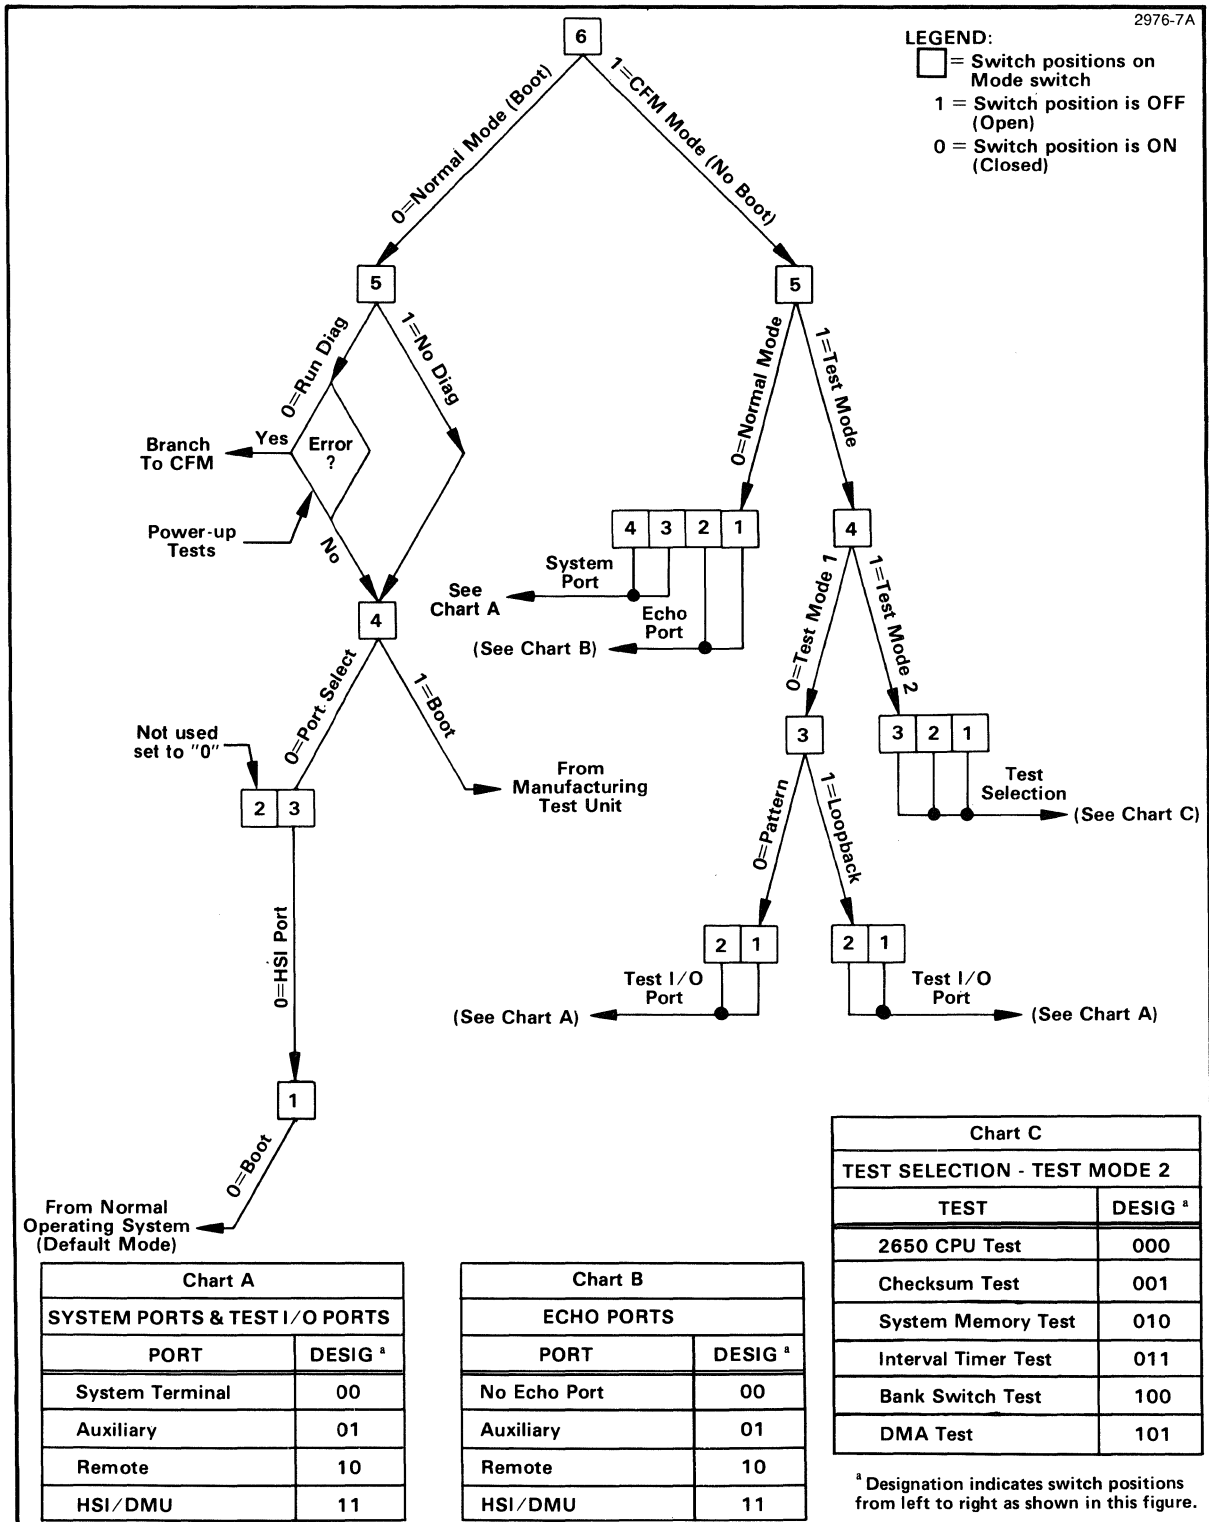
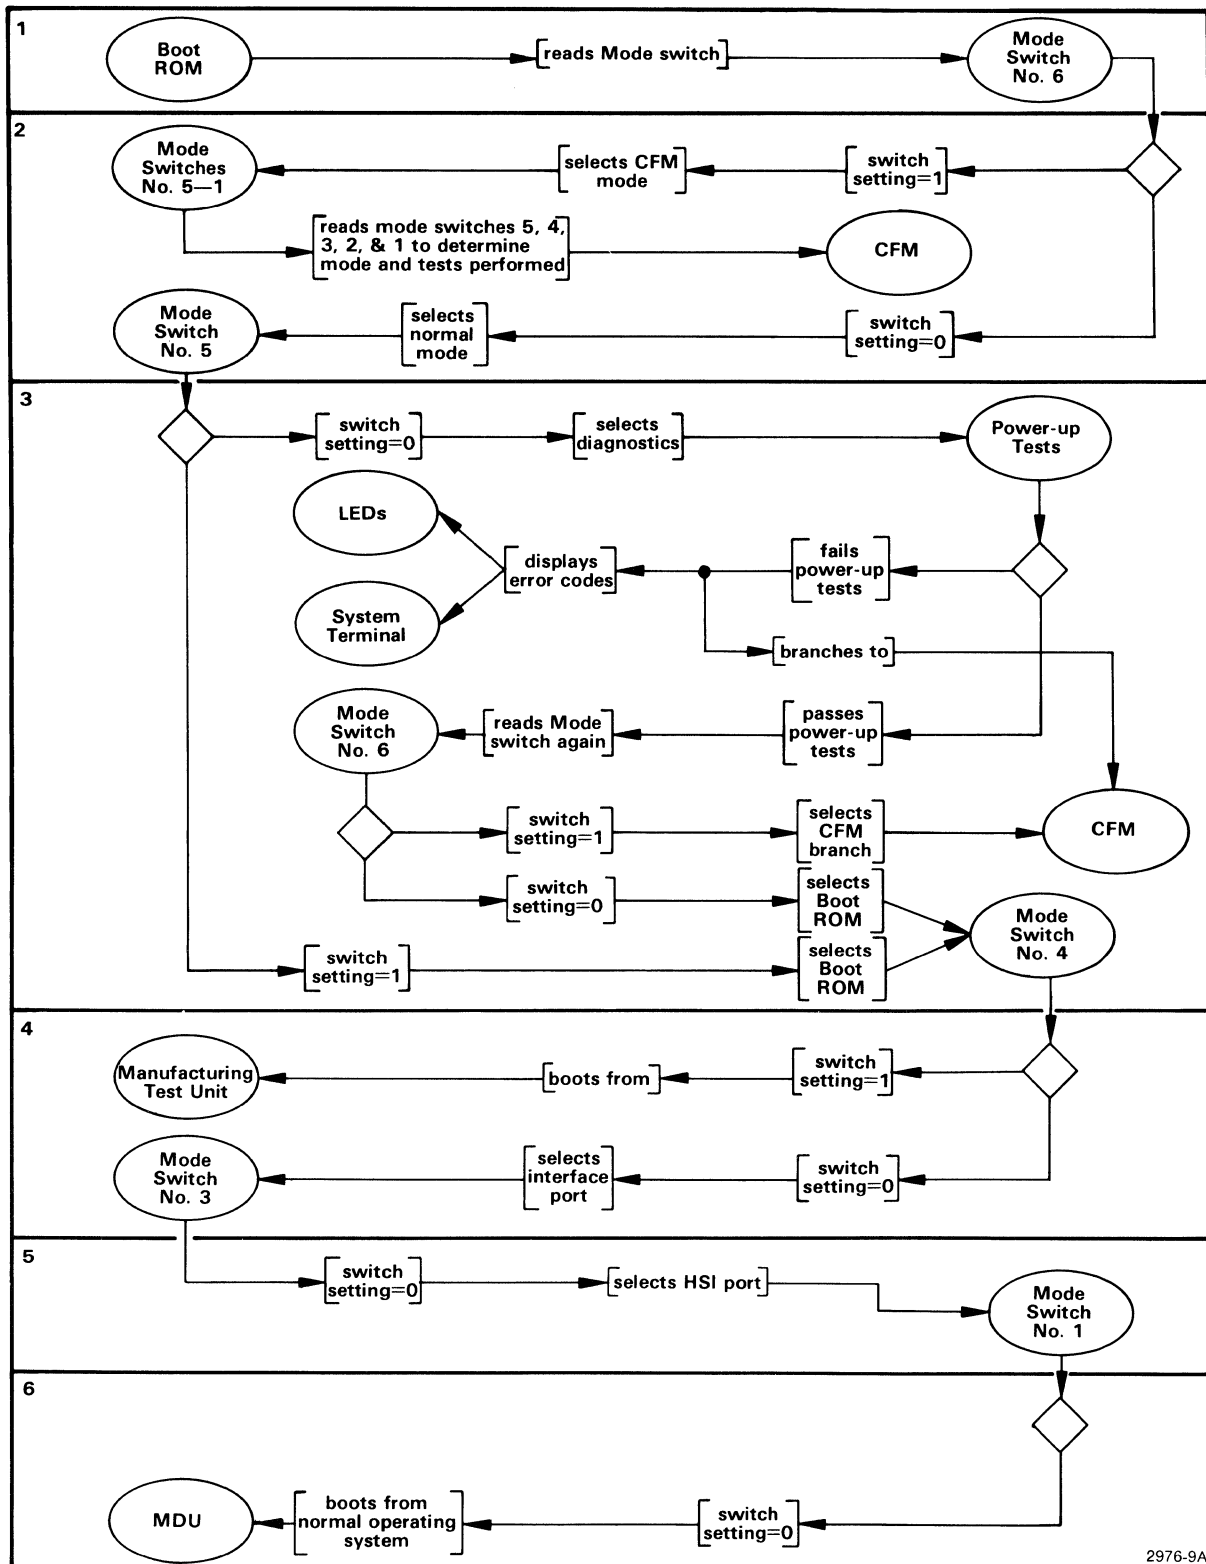

Fig. 3-4. Mode switch decision tree (Version V1.x).
Fig. 3-5. 8301 power-up/restart sequence (Version V1.x).
Figure 3-4 is a modified decision tree diagram showing various options that are available by changing the mode selector switch positions. This decision tree will be referred to often in the following paragraphs. There are two main branches in the decision tree: the normal (boot) branch and the CFM (no boot) branch.
The mode switch positions determine the options selected. Note in Fig. 3-4 that position 6 is read first. This position accesses the two main operating modes: normal and CFM.
2. The other method of selecting the CFM is to set the mode switch position 6 to "1" (OFF or Open). This method fully utilizes the capabilities of the CFM. The CFM user commands can be entered and displayed on a choice of peripherals. It also permits the selection of either CFM normal mode, Test Mode 1, or Test Mode 2. Refer to Fig. 3-4.
The power-up/restart sequence of Version V1.x for the 8301 is shown in the accompanying flow diagram, Fig. 3-5. The following steps describe this sequence. (Refer also to Fig. 3-4.)